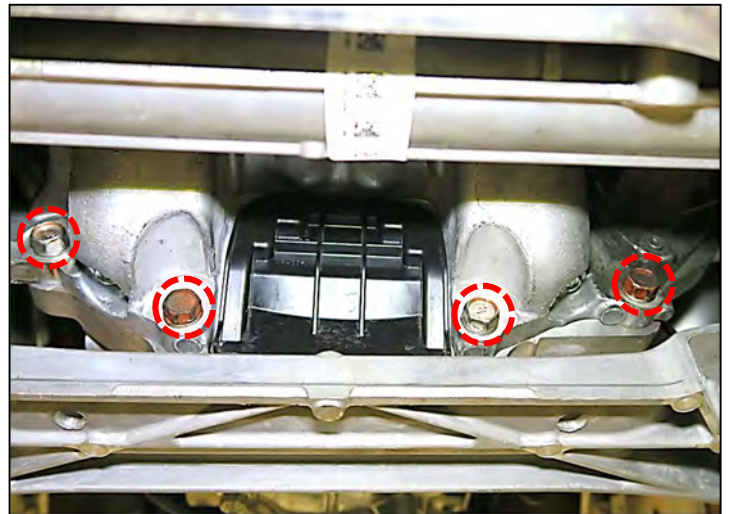

Figure 43
45. Remove the (4) 14mm engine side transmission shown in Figure 43.